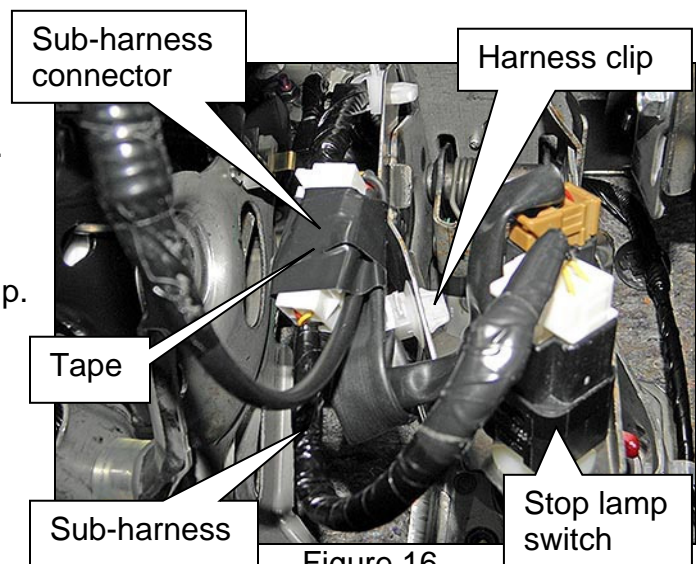

Figure 16
14. Unclip the stop lamp harness from the support bracket (Figure 16).
15. Tape the sub-harness connector to the adjacent stop lamp harness (Figure 16).